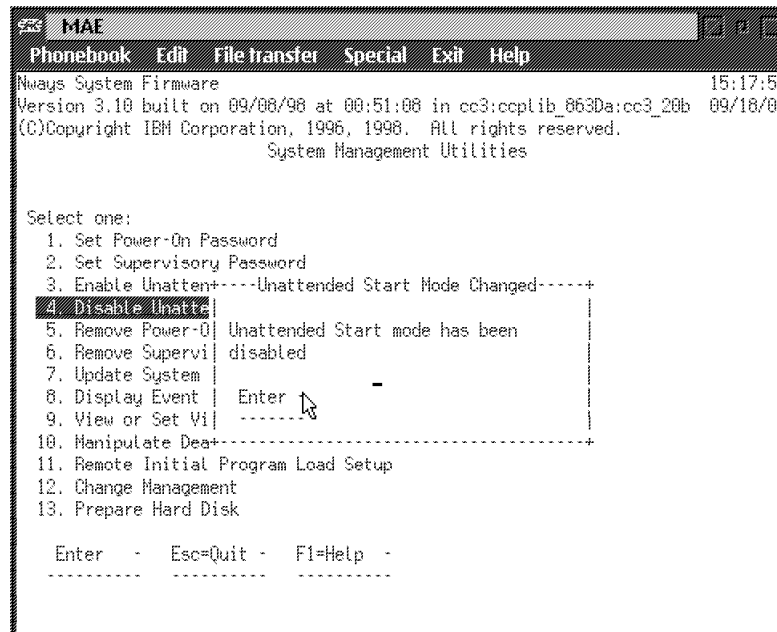

Figure 5-10. Unattended Start Mode Changed (Disabled) Panel
- 1** Select **4. Disable Unattended Start Mode** from the utilities panel. The Unattended Start Mode Changed panel is displayed (Figure 5-10).